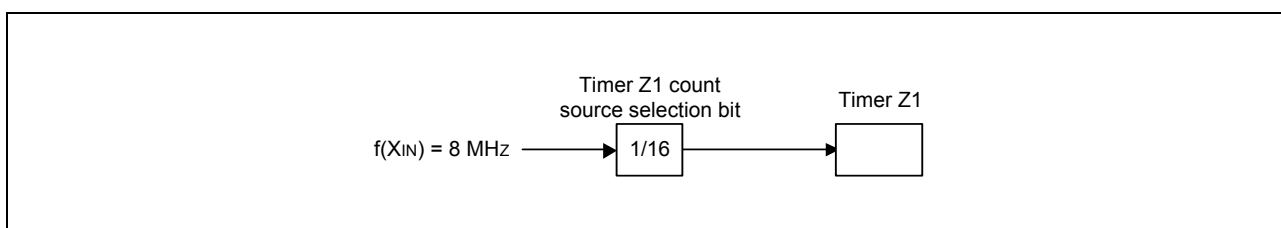
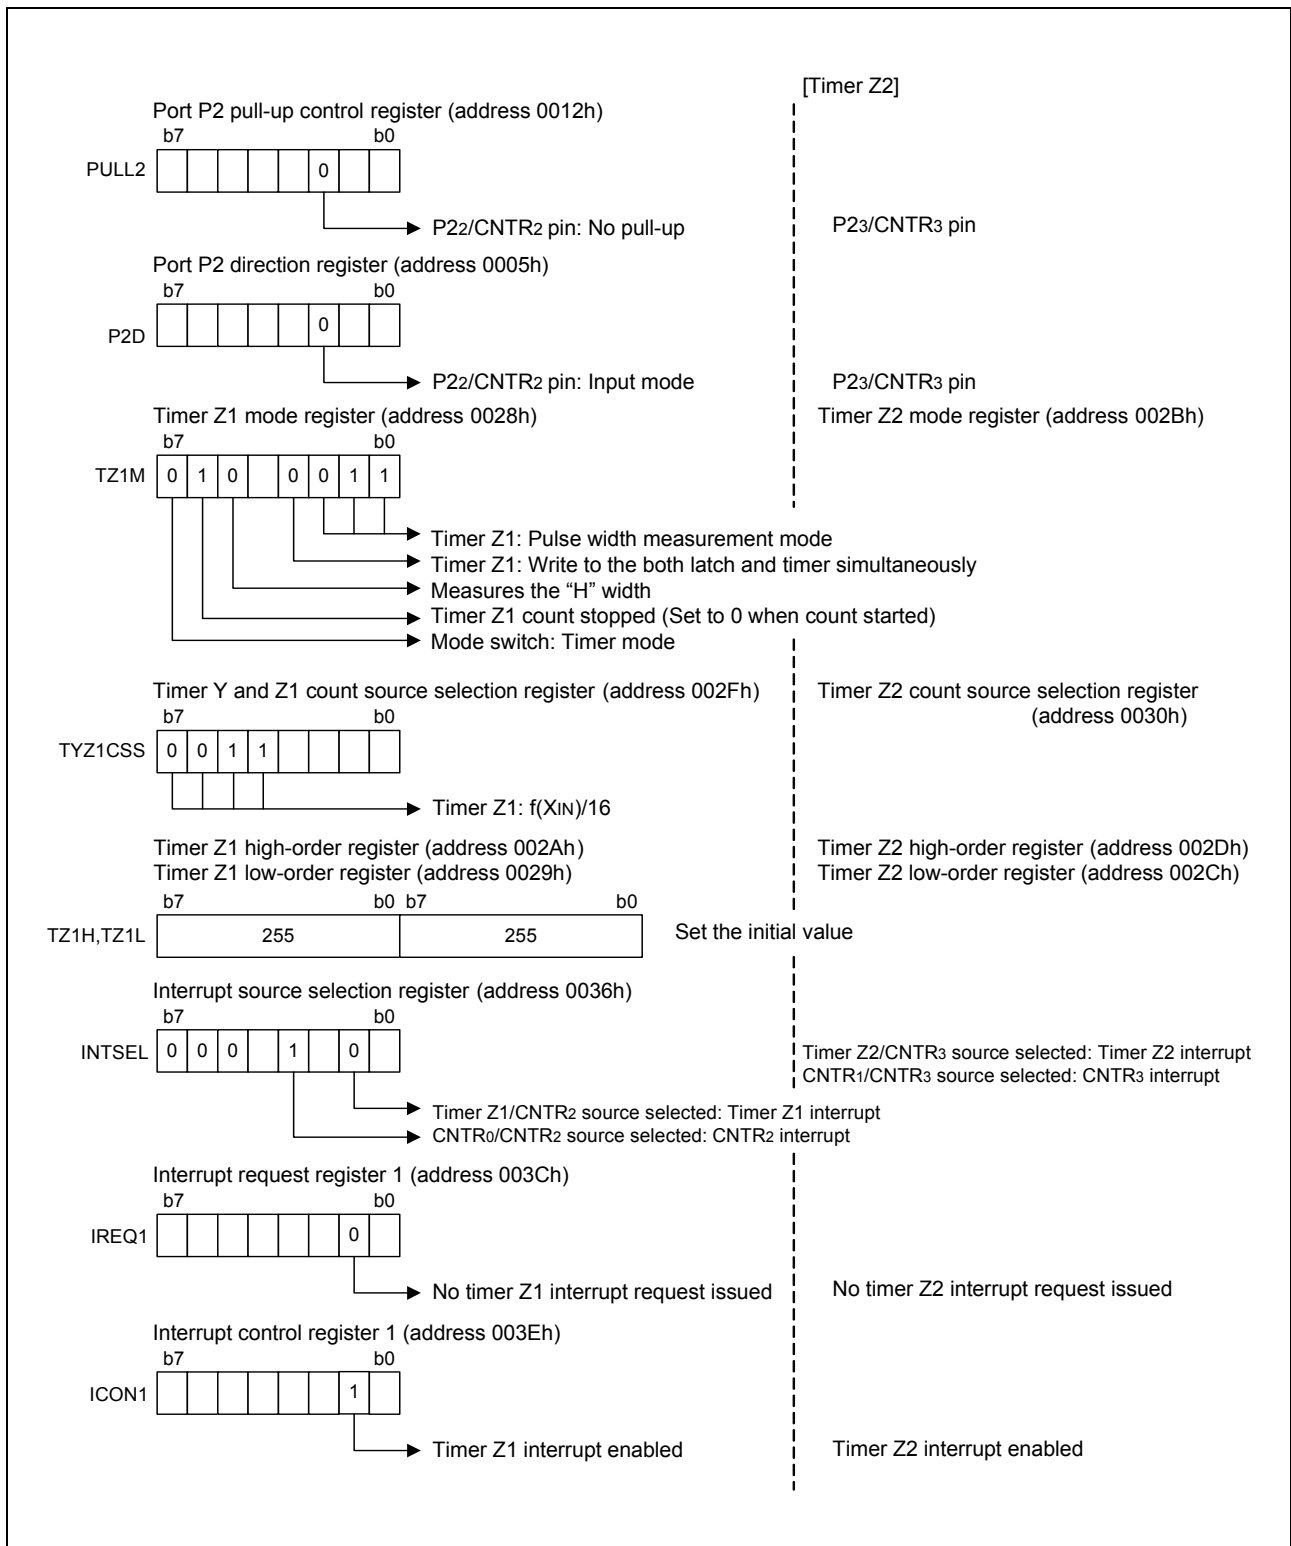

Figure 3.1 Timer Connection and Division Ratio
Figure 3.2 Relevant Register Settings (1)
Figure 3.1 shows the Timer Connection and Division Ratio, Figures 3.2 and 3.3 show the Relevant Register Settings (1) and (2), and Figures 3.4 and 3.5 show the Control Procedure (1) and (2), respectively.